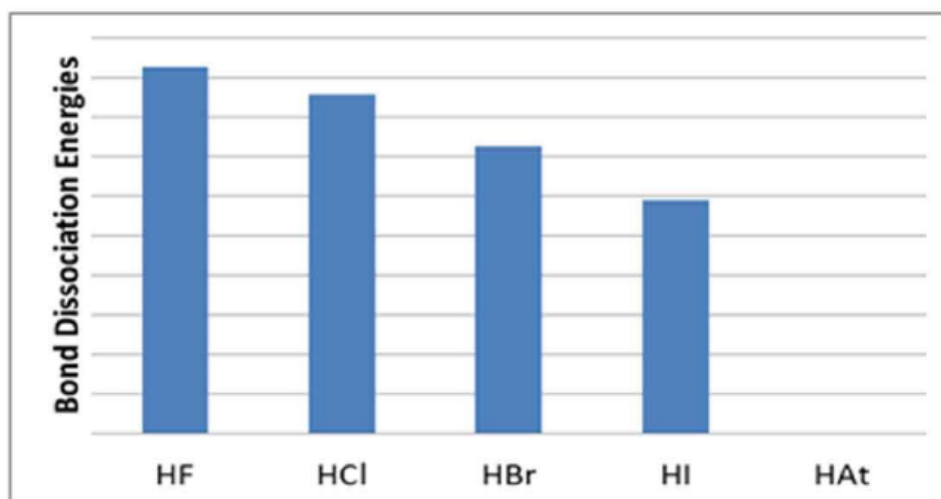

Fig 5.1
- A5** The bond dissociation energies of some hydrogen halides are shown in Fig 5.1. Bond dissociation energy is the energy that must be provided to the molecule in order to break the bond.